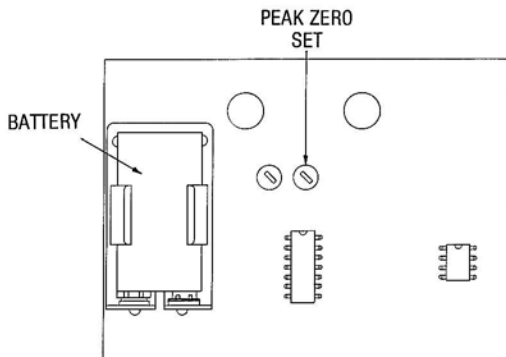

Fig. 1
- Place the switch in the PEAK mode. Referring to Fig. 1, find and adjust the PEAK mode meter zero on the circuit board. NOTE: NEVER USE THE FRONT ZERO SET FOR PEAK ZERO ADJUSTMENT.